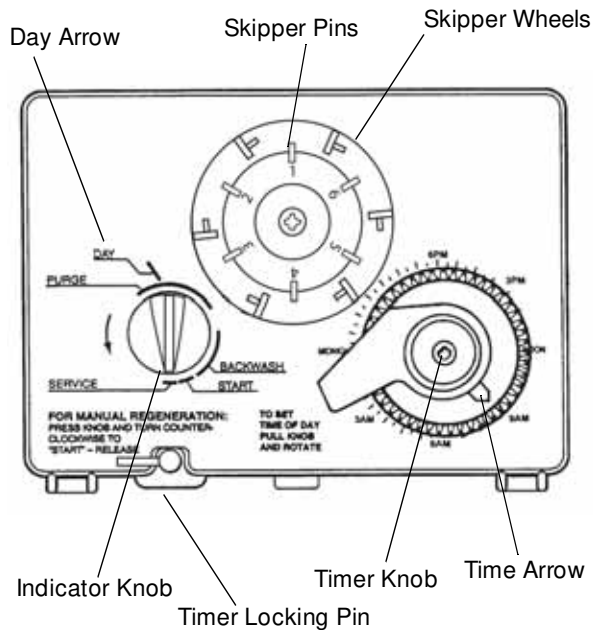
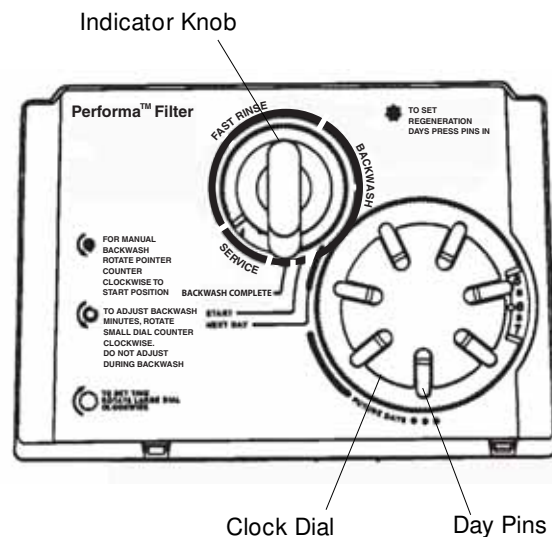
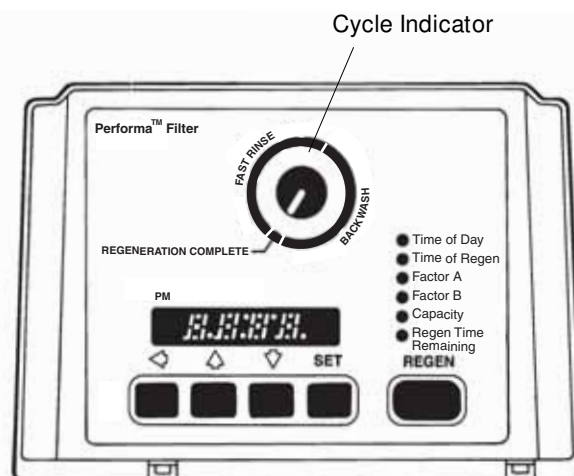

Figure 4
Figure 5
Figure 7
**Note:** The following steps will require turning the indicator knob (Figure 4 and Figure 5) or the cycle indicator (Figure 7) to various positions. Manually rotate the camshaft **COUNTERCLOCKWISE** only until indicator knob and cycle indicator points to desired position. (See manual regeneration sections for each control's manual operation.)
1. Set days of regeneration on skipper wheel (Figure 4).
**Note:** The timer locking pin should always be horizontal (Figure 4) during operation.
extra regeneration can be achieved. Depress the indicator knob on the 440i (Figure 4) with a wide-blade screwdriver and turn **COUNTERCLOCKWISE** to **START** to initiate a regeneration. It will take a few minutes for regeneration to start. A normal regeneration will take approximately two hours.
Electricity is used only to run the control and to rotate the camshaft. All other functions are operated by water pressure. Therefore, in the event of a power outage, all the regeneration positions may be dialed manually by depressing the indicator knob and turning **COUNTERCLOCKWISE** (Figure 4). The following cycle times should be used for proper regeneration:
1. Set days of regeneration (Figure 5).